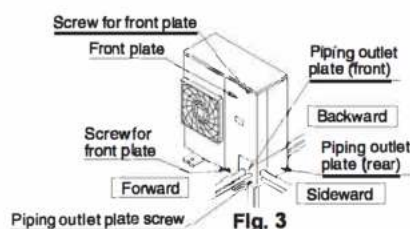

Fig. 3
- The refrigerant piping is connectable in four directions for RZFQ125,140AY16 & RZV/MFQ125,140AY16. (See Fig. 3)